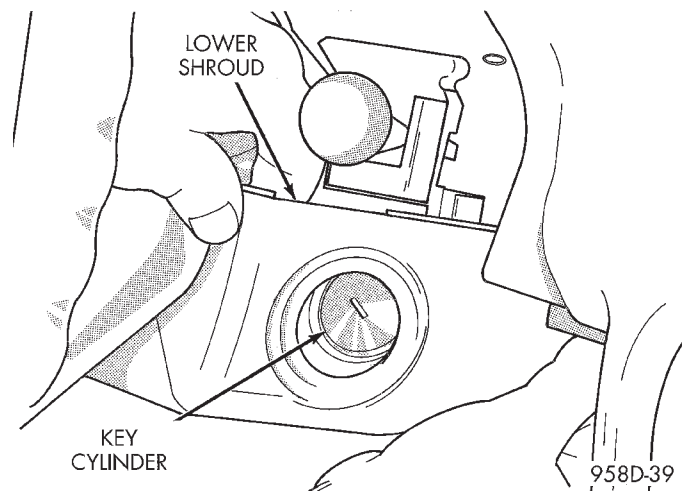

Fig. 59 Remove Lower Shroud From Ignition Cylinder
(8) Pull lower shroud to clear ignition cylinder and key release, if equipped (Fig. 59).